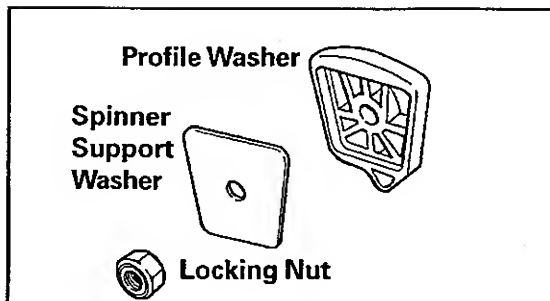

Figure 7-5
4. Remove the three locking type nuts ($\frac{1}{2}$ " socket) securing the spin basket to the spider assembly (*Figure 7-5*).